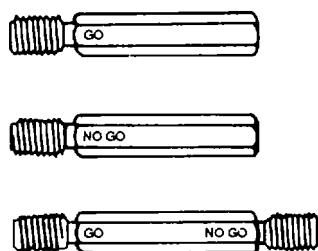

Figure 3-54. Plug Gauges
a. Use. GO and NO GO plug gauges are used to inspect internal threads. They are available as separate tools or with both ends combined in one tool, as shown in figure 3-54. Threads are inspected as follows:
- (1) GO gauge. For an internal thread to be accepted, the GO plug gauge must pass through the entire length of the thread.